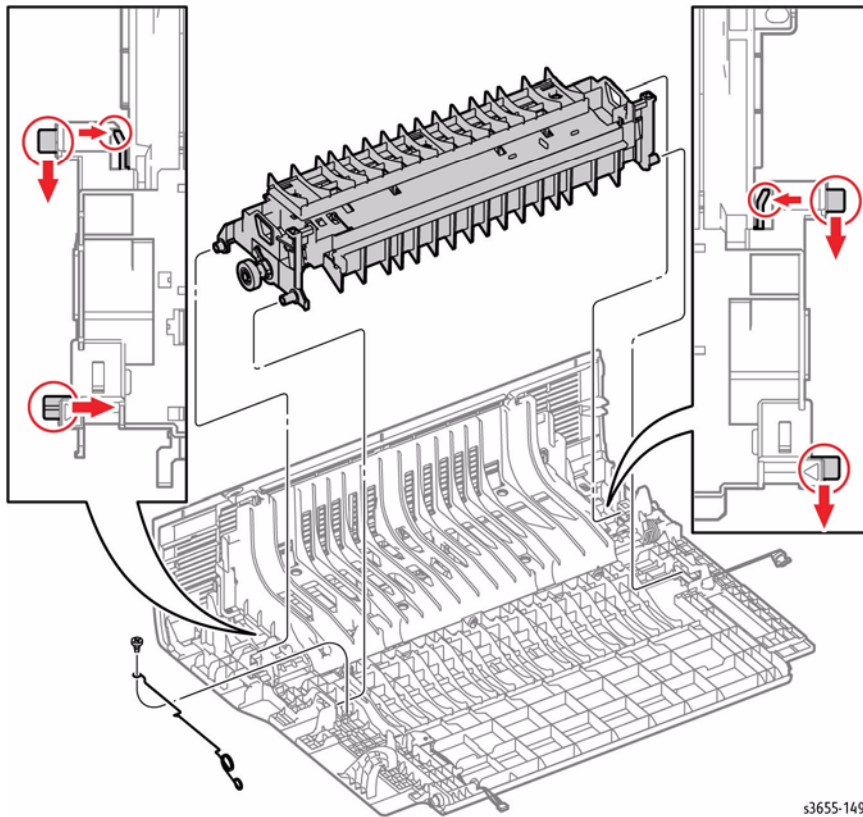

Figure 1 Remove the Duplex Chute Assembly
3. Refer to Figure 1 to locate and remove 1 screw (silver, tapping, 4mm) that secures 2 ground springs to the Rear Cover.